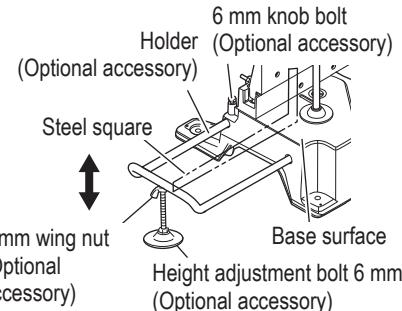

Fig. 15
(1) As indicated in Fig. 15, use a steel square for aligning the upper edge of the holders with the base surface.
Make sure the end of Height Adjustment Bolt 6 mm does not protrude from the holder. (Fig. 15)